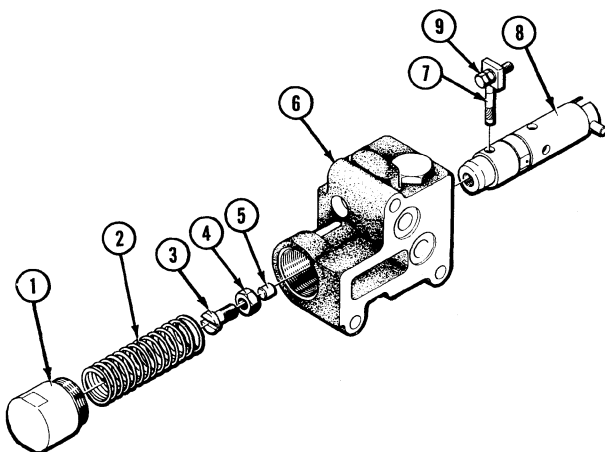

Figure 29
Cap & Spool (Figure 29)
1. Remove the cap (1) and spring (2), Figure 29.
2. Loosen the lock nut (4) and remove the screw (3) and plug (5) from the spool (8). Remove the spool from the valve body (6).
1. Check the grooves and passages of the valve housing and spool for foreign material. See Figure 29.